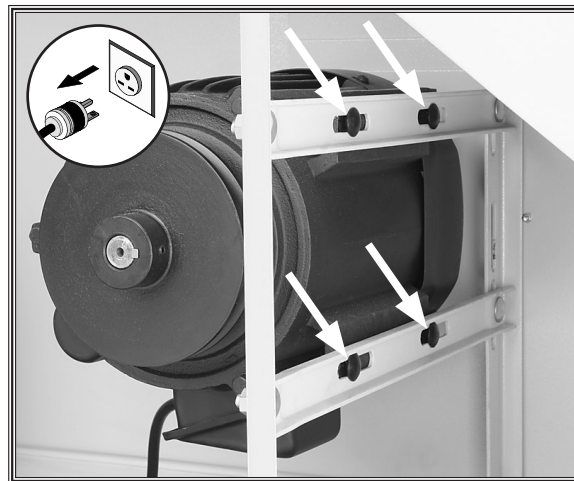

Figure 68. Motor mount bolts for adjusting pulley alignment.
4. Loosen the motor mount bolts shown in **Figure 68**.